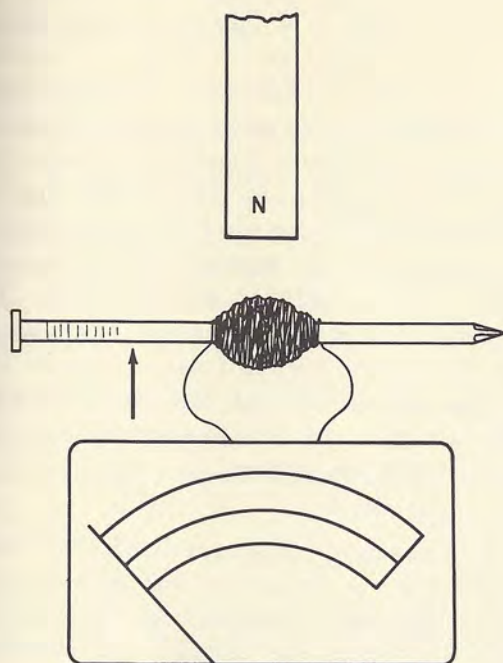

Fig. 12-16
Step 5. Hold the coil at one end, just as you did in Step 1. Place the magnet on the bench in front of you. Move the coil slowly so that it passes directly over the magnet, as shown in Fig. 12-16. Watch the meter needle closely for any movement. Reverse the motion of the coil by moving it over the magnet in the opposite direction. Watch the meter needle carefully for any movement.